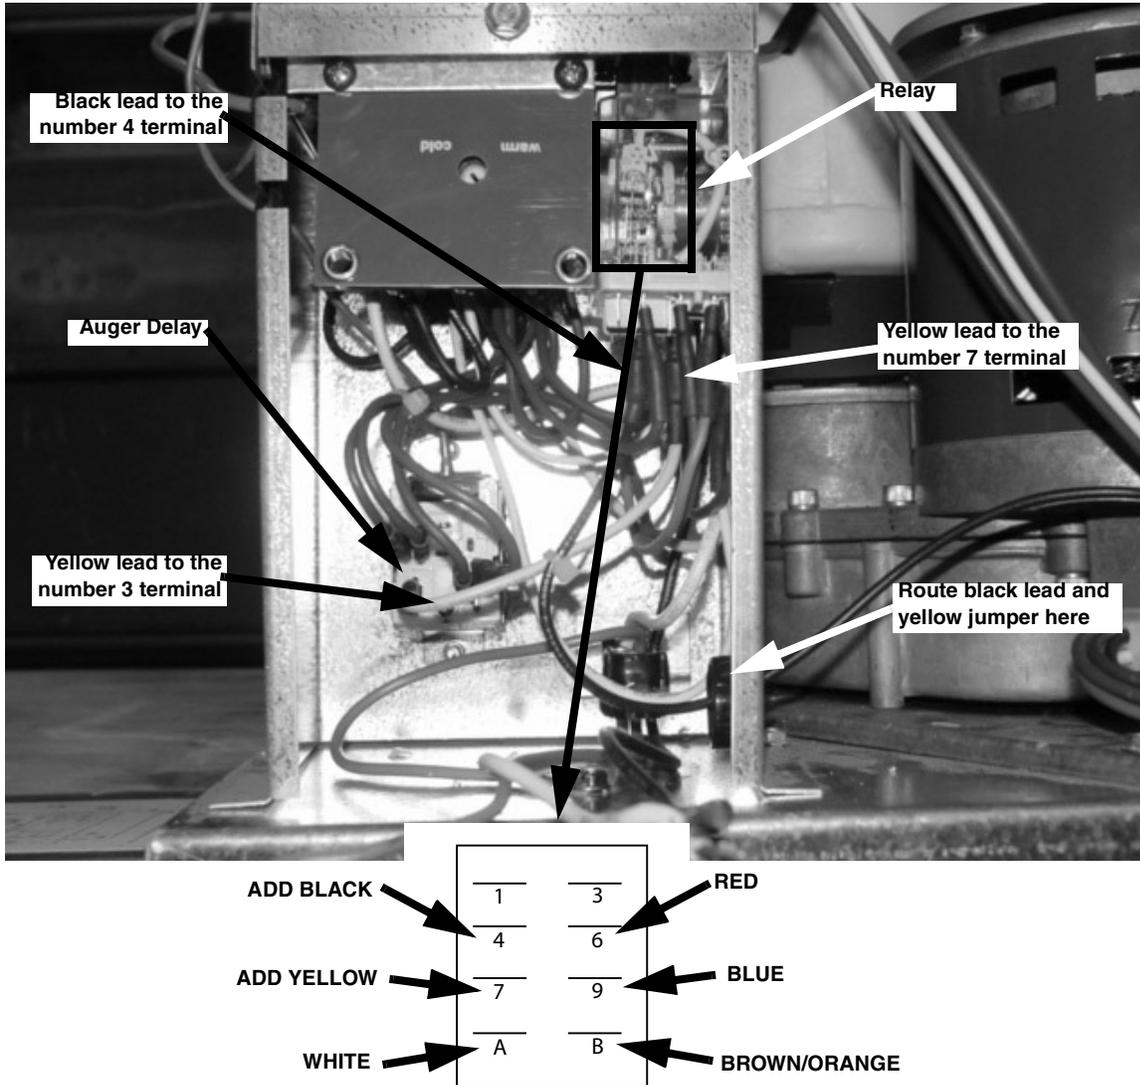

FIGURE 2
8. Route the black lead and the yellow jumper wire from the cable into the electrical box through the hole in the side of the icemaker electrical box (see FIGURE 2).
9. Connect the yellow lead to the number 3 terminal on the auger delay and the number 7 terminal on the relay. Connect the black lead from the cable to the number 4 terminal on the relay (see FIGURE 2).